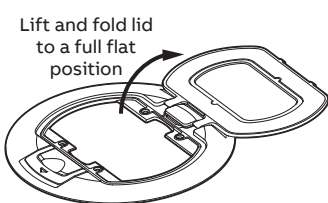

Figure 2
- b. Lift lid to open to full, flat position. (Figure 2)